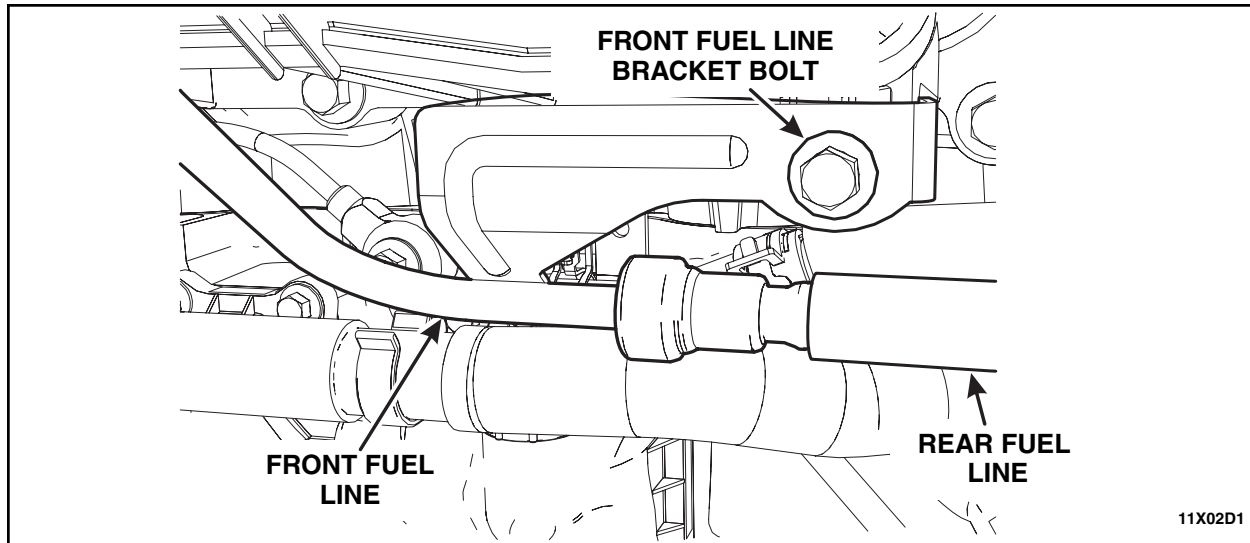

FIGURE 4
2. Remove the bolt from the front fuel line bracket at the intake manifold. See Figure 4.
3. Disconnect the front fuel line-to-rear fuel line spring lock coupling (See Figure 4). For additional information, refer to WSM, Section 310-00: Fuel System.
8. Connect the front fuel line-to-rear fuel line spring lock coupling. See Figure 4.
9. Position the front fuel line bracket back to the intake manifold and install the bolt. See Figure 4.